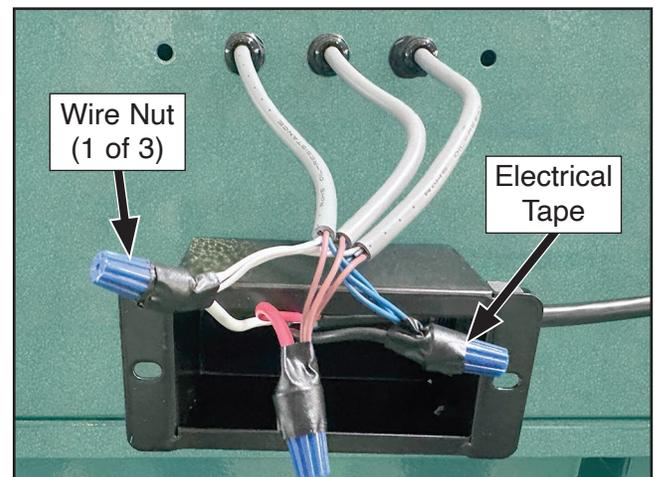

Figure 56. Wires and wire nuts wrapped in electrical tape.
50. Wrap each wire nut with electrical tape (see **Figure 56**).